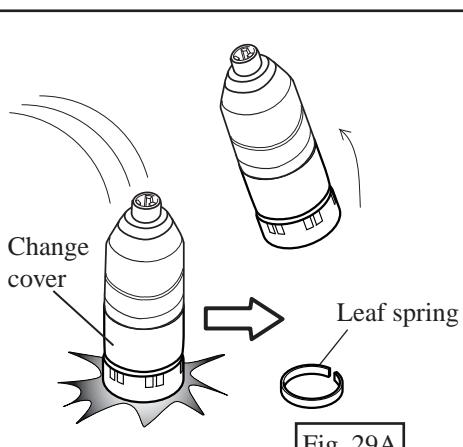

Fig. 29A
- If it is difficult to remove leaf spring with No.1R212 "Retaining Ring Plier", slightly knock the change cover to the working table several times. Then, leaf spring can be removed. See Fig. 29A.